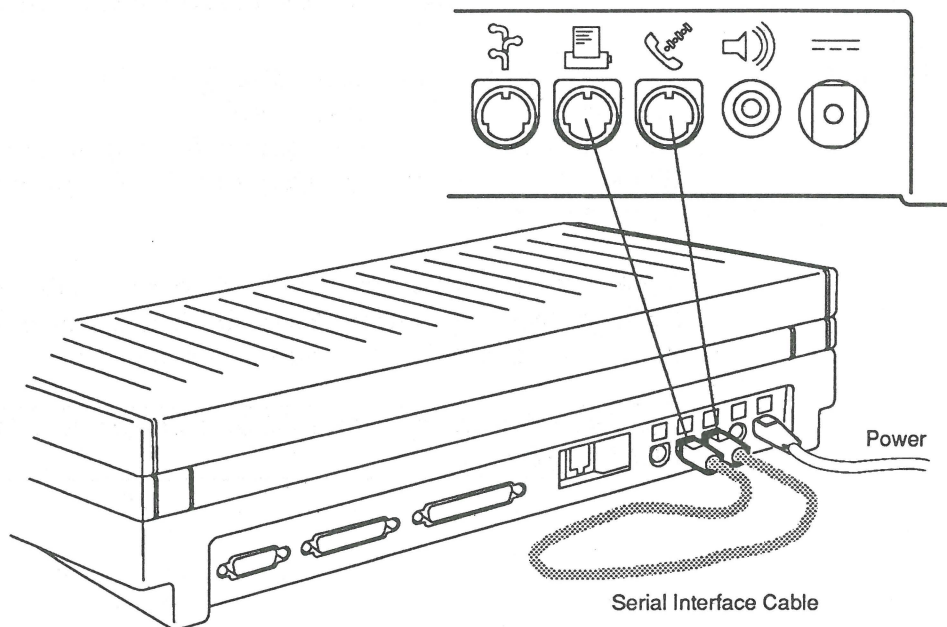

FIGURE 1
1. **Figure 1.** Plug in the power adapter, if available, and connect it to the Portable.
2. **Figure 1.** Connect the serial interface cable between the modem and printer ports.